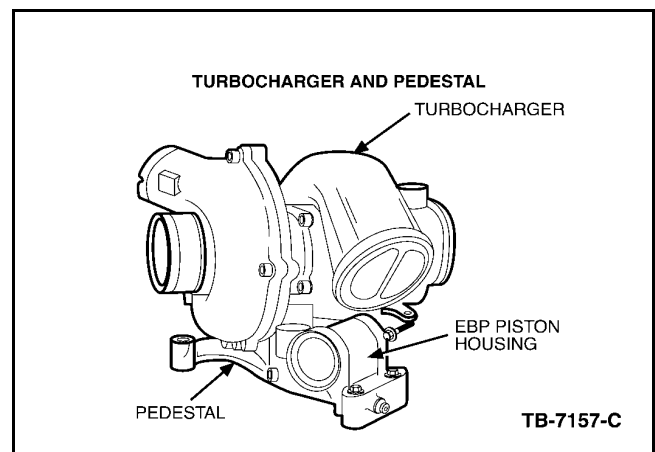

Figure 2 - Article 04-20-2
2. Remove the turbocharger from the pedestal (Figure 2). Refer to Workshop Manual Section 303-04.